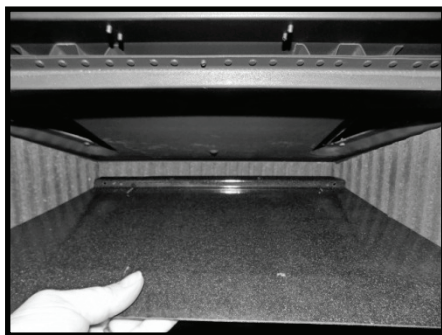

Figure 51
2. Remove two screws from the upper baffle and remove (Fig. 51)